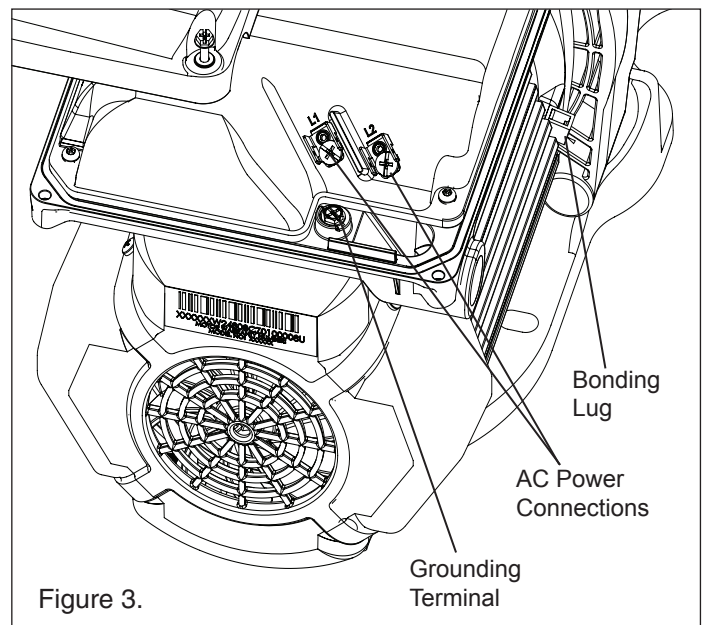

Figure 3.
The pump accepts 99-253V, 50 or 60Hz single phase input power. The terminal block connections are capable of handling up to 10AWG solid or stranded wire. There are also fast-on type quick connectors, however, check the local electrical codes for the desired connection method. The connections must be permanently made to the grounding terminal (see **Figure 3**) in the field wiring compartment according to the local electrical code. The motor controller will automatically regulate the pump's speed when running on lower voltage to keep the current below 13.2A. There is no wiring change required to run the pump on 110V nominal power, the same terminals are used as with high voltage wiring.
1. Be sure all electrical breakers and switches are turned off before wiring motor. Always wait five (5) minutes after disconnecting the power from the pump before opening or servicing the drive.
5. Permanently ground the motor using the ground screw located on the inside rear of the controller interface (see **Figure 3**). Use the correct wire size and type specified by the current National Electrical Code. Be sure the ground wire is connected to an electrical service ground.
6. Bond the motor to all metal parts of the pool structure and to all electrical equipment, metal conduit and metal pipping within 5 feet (1.5 M) of the inside walls of the swimming pool, spa or hot tub in accordance with the current National Electrical Code. UL requires use of a solid copper bonding conductor not smaller than 8 AWG. See **Figure 3**.